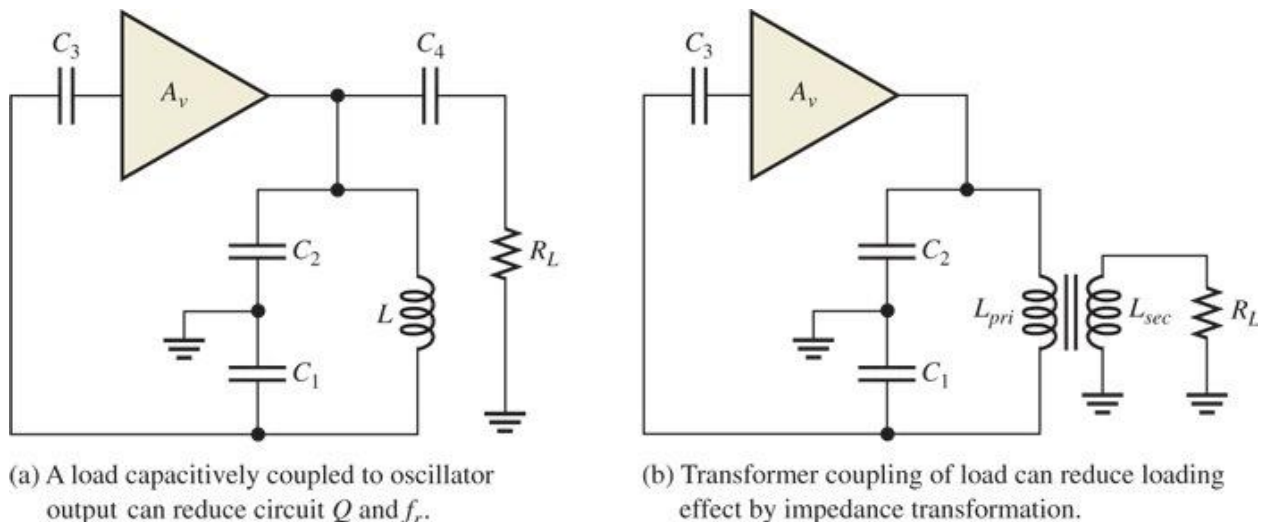

Figure 18 Oscillator loading.
- Also, when an external load is connected to the oscillator output, as shown in Figure 18(a), f_r may decrease because of a reduction in Q .
- In some cases, one way to eliminate the effects of a load resistance is by transformer coupling, as indicated in Figure 18(b).